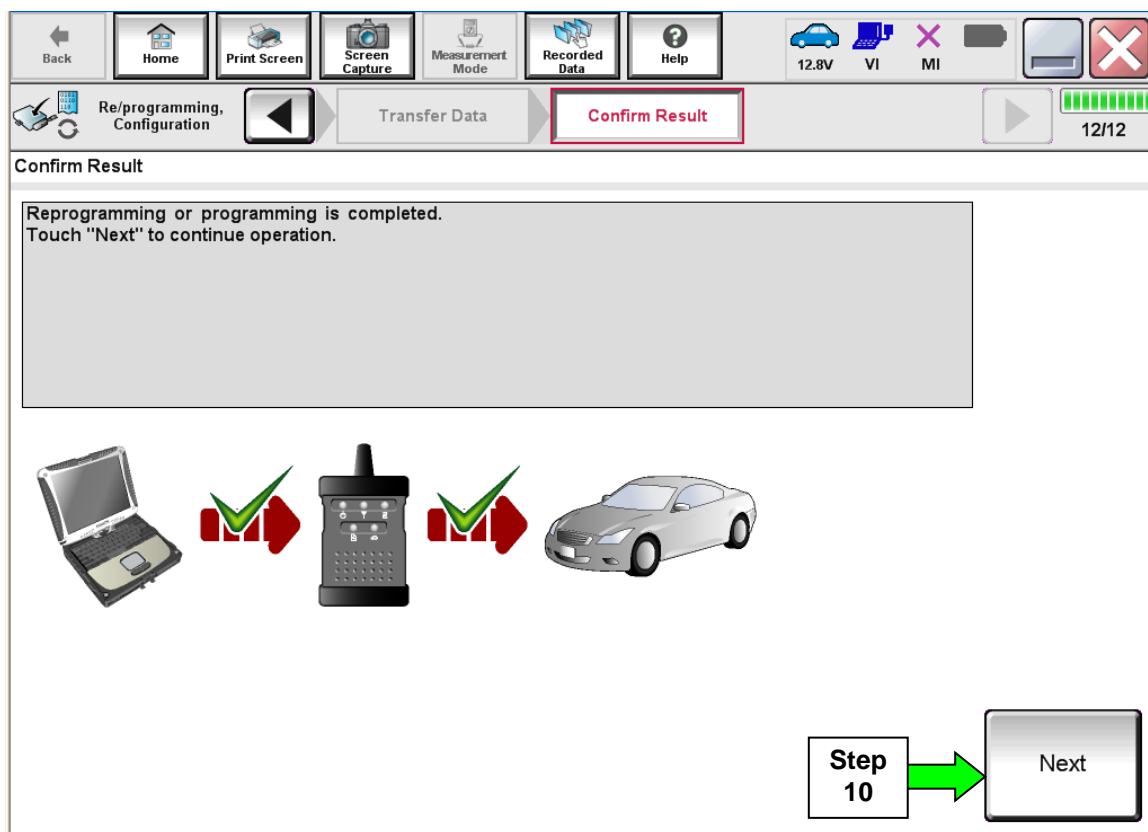

Figure 4
8. When the screen in Figure 4 displays, reprogramming is complete.
NOTE: If the screen in Figure 4 **does not** display (indicating that reprogramming is completed), refer to ECM recovery on the next page.